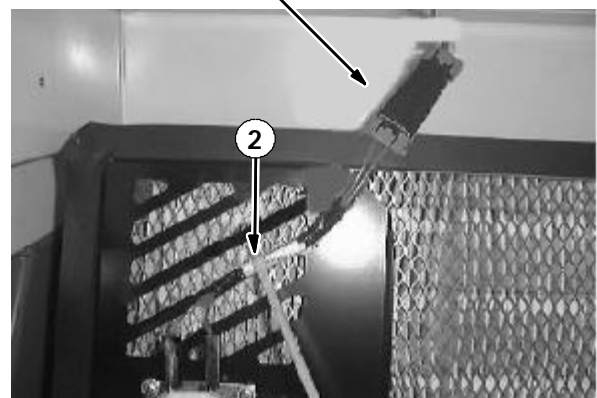

FIG. 6
7. Plug the new harness into the existing harness with new connector. (Refer to FIG. 6)